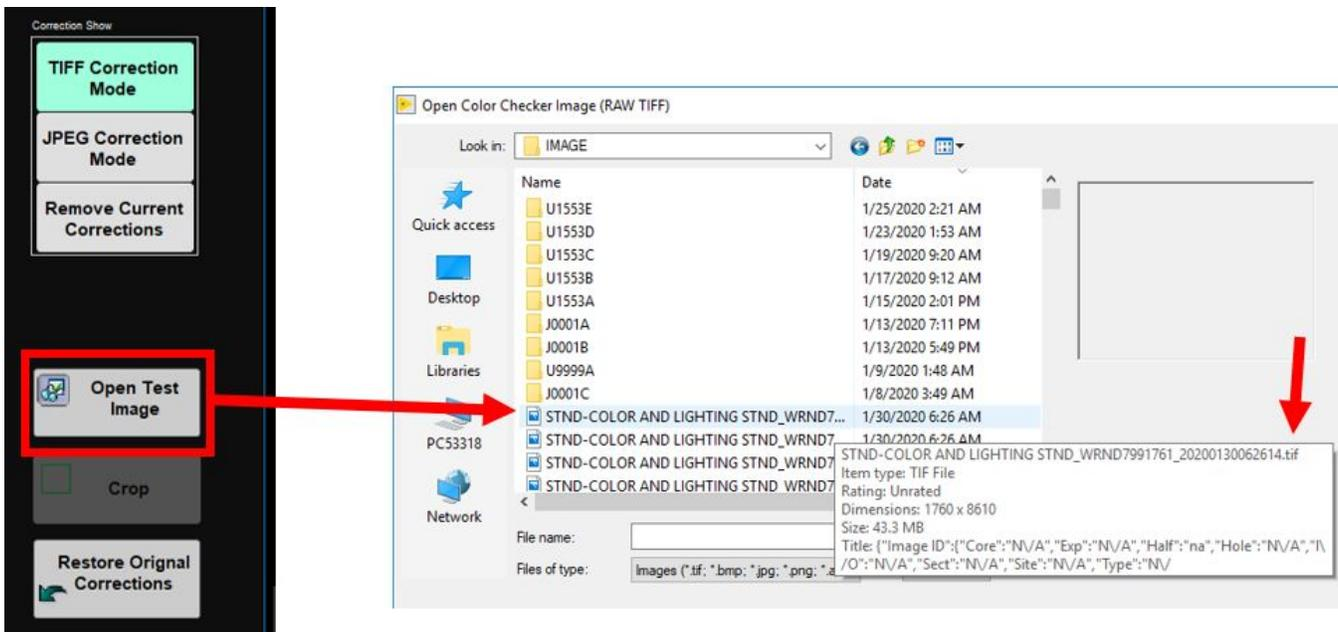

Figure 44. Selecting Appropriate test image. Callouts to button and .tif image
8. On the right side of the screen select **Open Test Image**. The IMAGE folder will appear. Select the Image just taken. Make sure to select the .tif image and not the .jpg. With the mouse, hover over the file and check the extension is .tif. Select the appropriate file and click **Open** (Figure 44). **As of writing this, keep TIFF Correction selected while opening Test Image, will receive an IMS error message if select JPEG Correction and then try to load in test image**